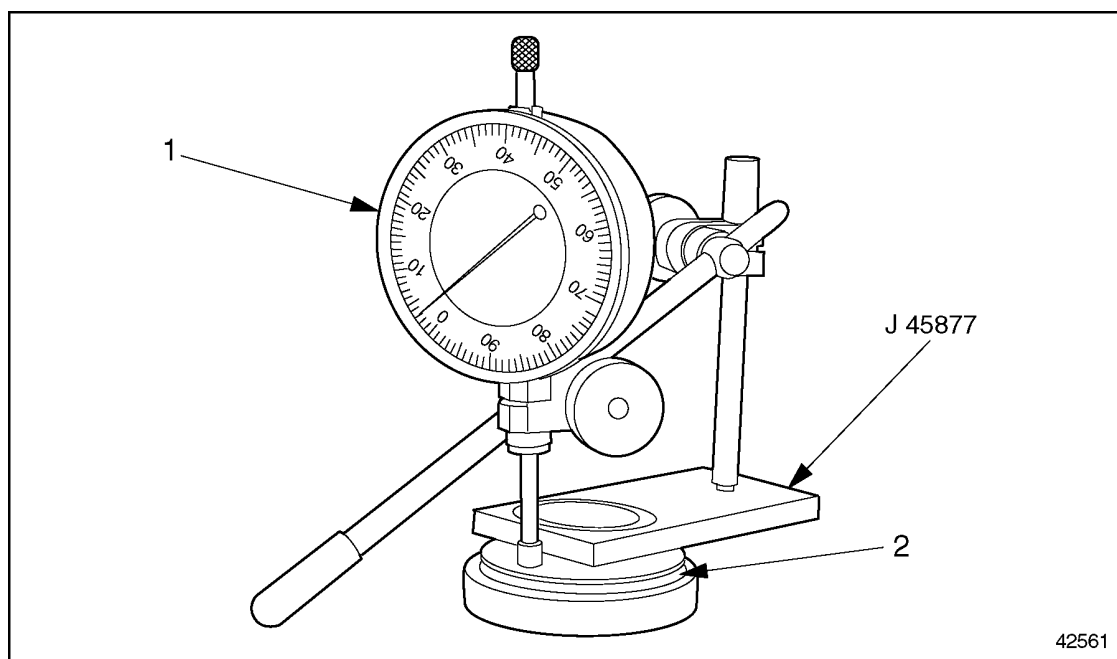

Figure 1-409 J 45877 Seal Run Out Gauge Adaptor
0.1778 mm (0.007 in.) for the seal. If the run out is greater for either measurement, install a new seal. See Figure 1-409.